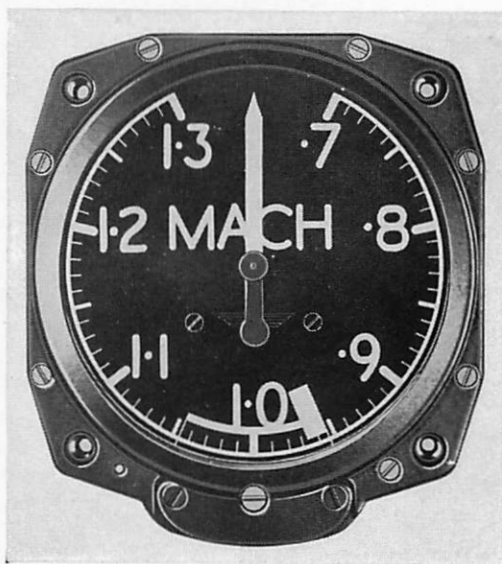

Fig. 4. Mk. 3A Machmeter.
9. The Mk. 3A model (Fig. 4) operates over the range Mach 0.7 to Mach 1.3 and, reading clockwise, it starts with Mach 0.7 at "one o'clock" and ends with Mach 1.3 at "eleven o'clock".